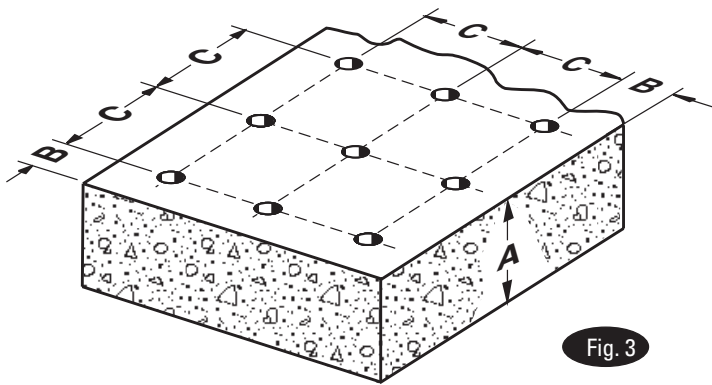
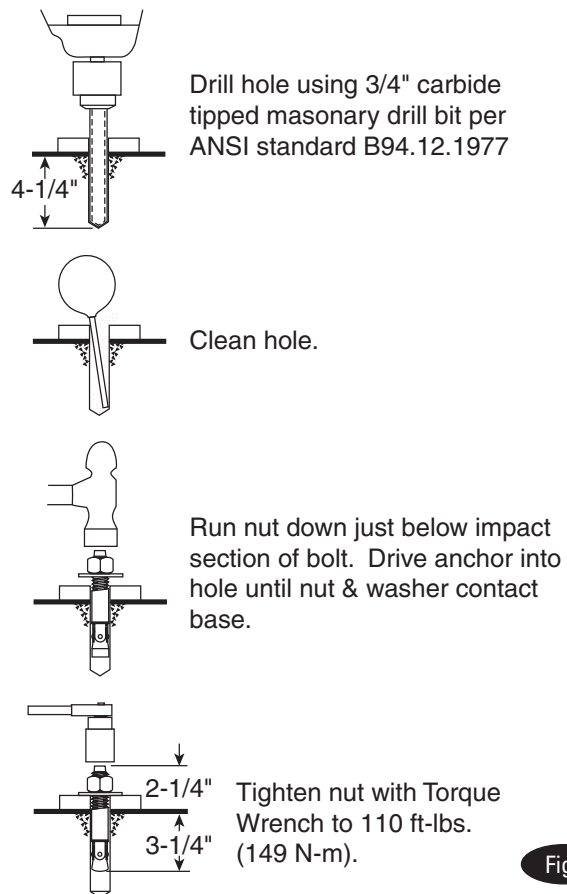

Fig. 3
Fig. 4
IMPORTANT Drill only holes identified with "A" in Fig. 1, and install two (2) anchor bolts. The remainder of the anchors will be installed after runway pads are squared. See Figs. 3, 4 and 5 for drilling and anchoring instructions.
Concrete and Anchoring: Concrete shall have a compression strength of at least 3,000 PSI and a typical slab thickness of 5-1/2" to 6". In order to achieve required anchor loads, a minimum concrete thickness of 4-1/4" and anchor embedment of 3-1/4" is required at each anchor location. When using the standard supplied 3/4" x 5-1/2" lg. anchors, if the top of the anchor exceeds 2-1/4" above the floor grade, you DO NOT have enough embedment. Drill (10) 3/4" dia. holes in concrete floor using holes in column base plate as a guide. See Fig. 3 and Fig. 4 for hole depth, hole spacing, and edge distance requirements.